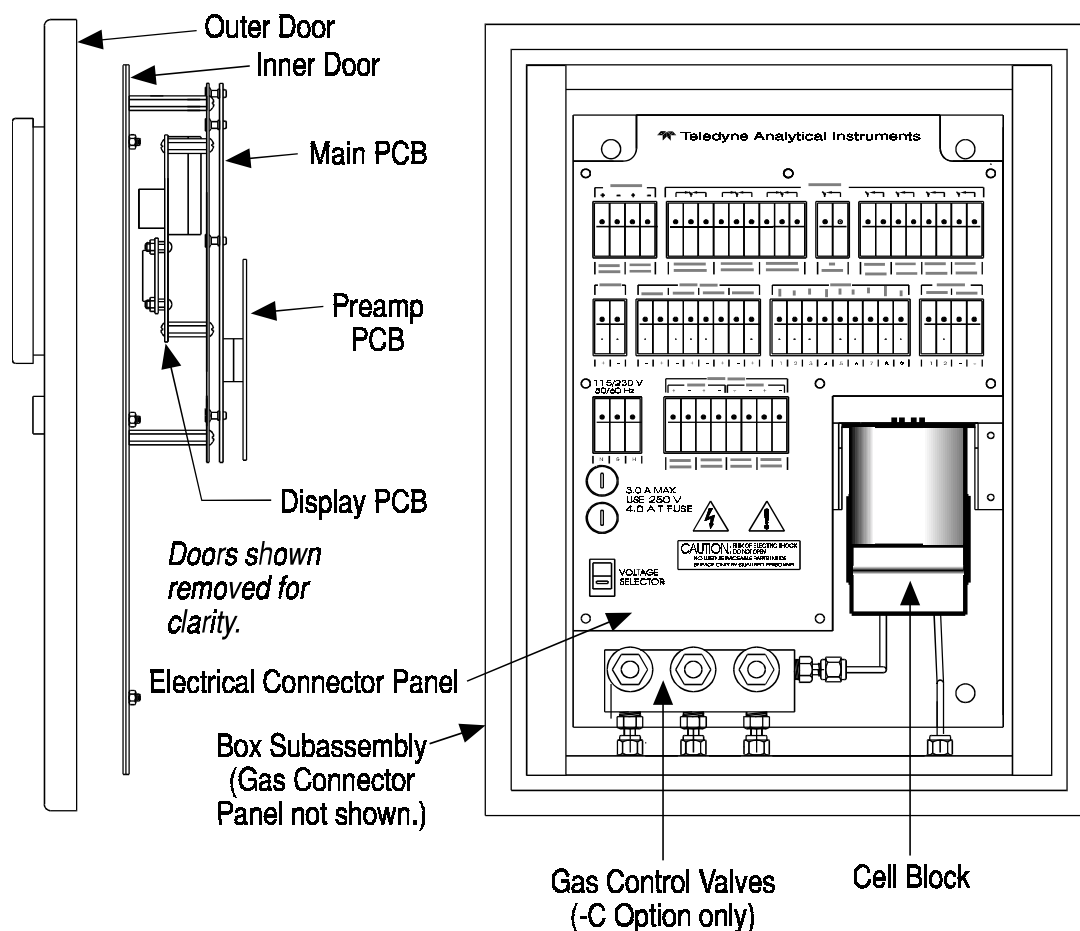
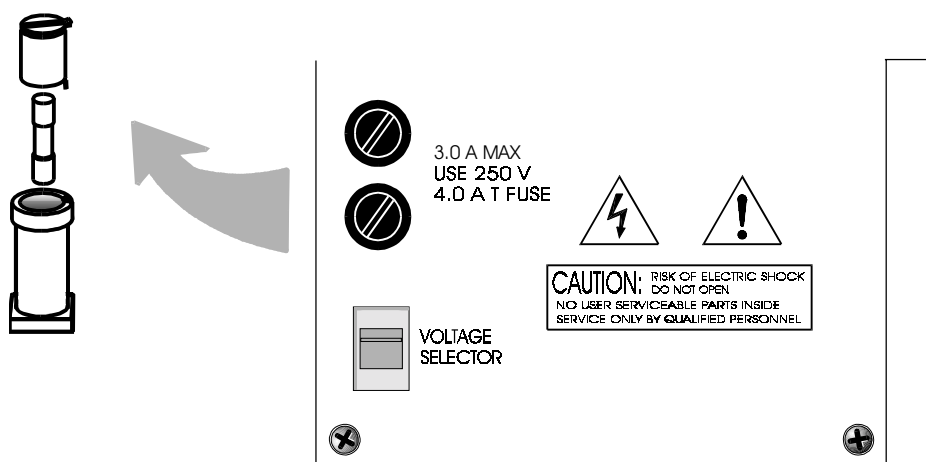

Figure 5-1: Major Internal Components
Figure 5-3: Removing Fuse Cap and Fuse from Holder
All internal components are accessed by unlatching and swinging open the front cover, as described earlier. The major internal component locations are shown in Figure 5-1, the cell block is illustrated in Figure 5-2, and the fuse receptacle is shown in Figure 5-3.
The Micro-Fuel Cell is located inside the stainless steel cell block behind the inner door (see Figure 5-1). To remove an existing cell:
2. Place a small screwdriver in the notch in the fuse holder cap, push in, and rotate 1/4 turn. The cap will pop out a few millimeters. Pull out the fuse holder cap and fuse, as shown in Figure 5-3.